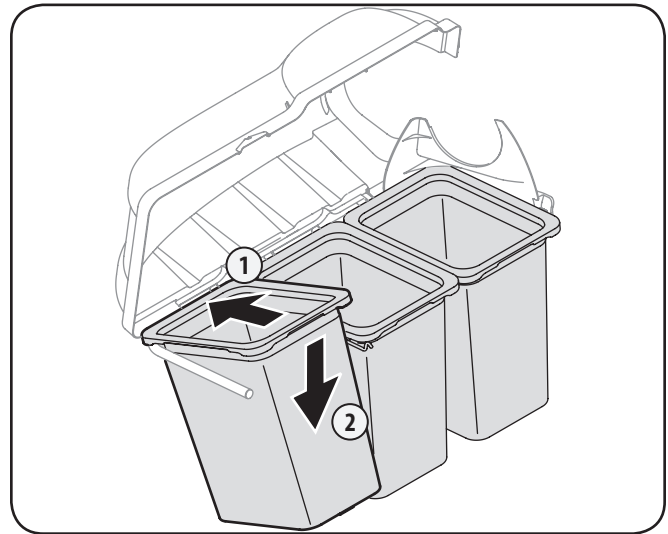

Figure 4-14
8. Install the bag assemblies, with the tight mesh panel facing the tractor, onto the bag support brackets by inserting the front edge in first, as shown in 1 of Figure 4-14, and setting the back edge down(2) until it fits into the assembly.